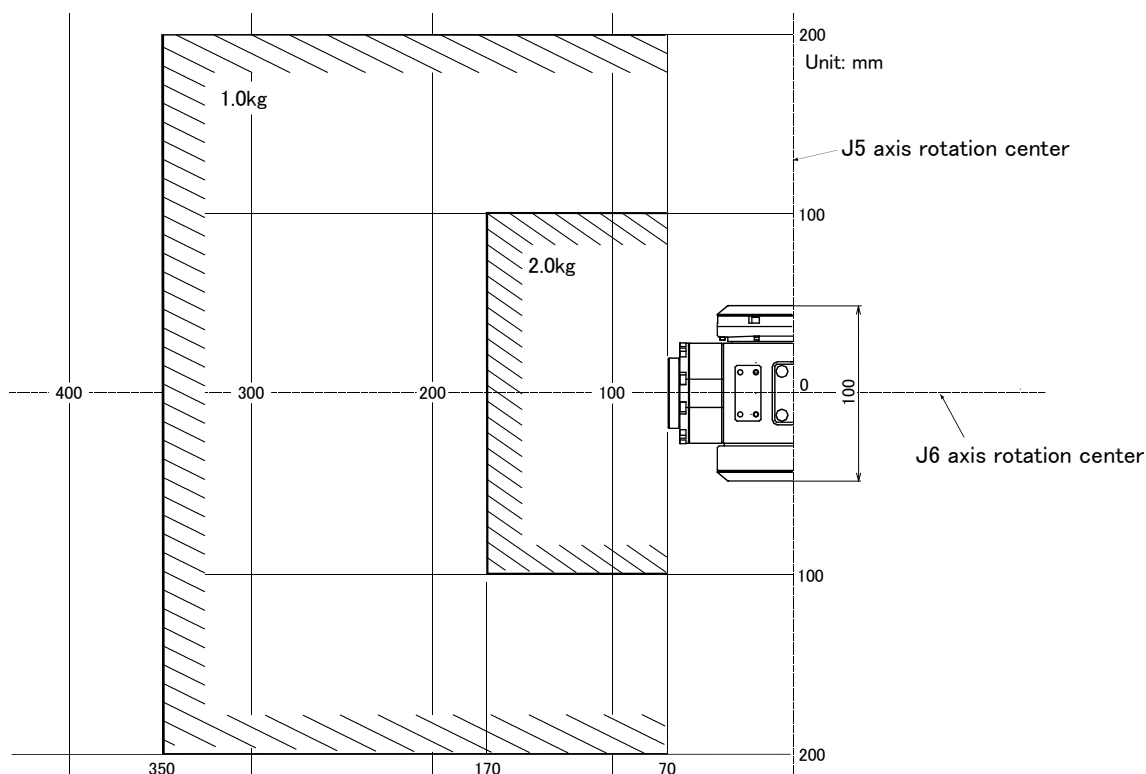
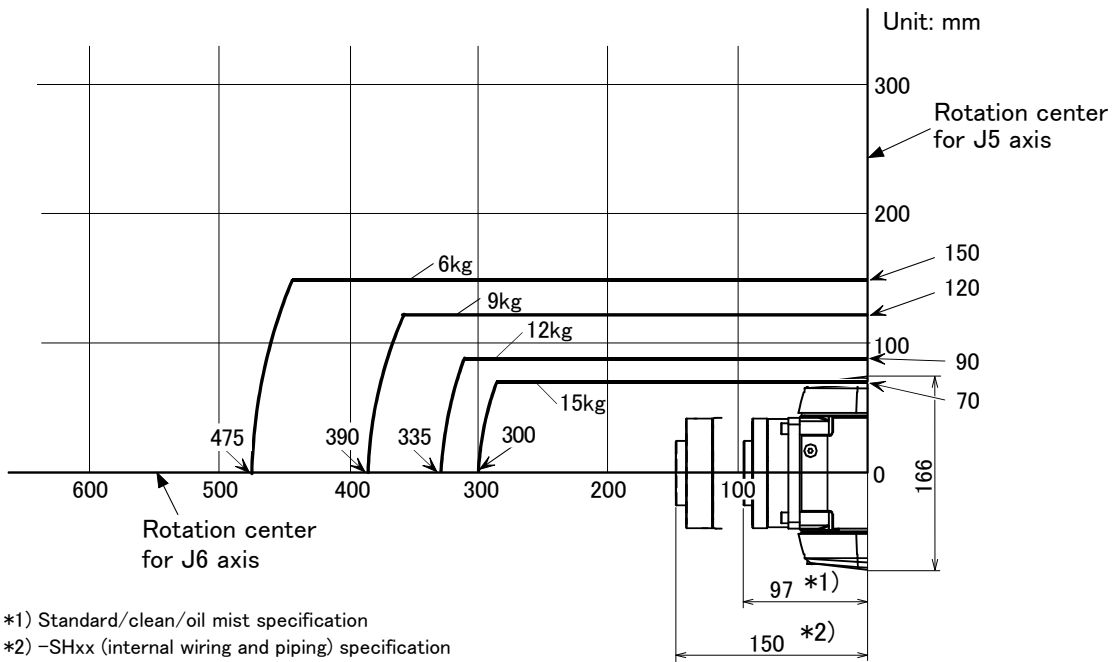

Fig.2-1 : Position of center of gravity for loads (for loads with comparatively small volume): RV-2FR(B)/2FRL(B)
Fig.2-5 : Position of center of gravity for loads (for loads with comparatively small volume): RV-20FR
- (2) Fig. 2-1 to Fig. 2-5 shows the distribution dimensions for the center of gravity in the case where the volume of the load is relatively small. Use this figure as a reference when designing the tooling.
- (3) Even if the load is force, not the mass, design the tooling so that moment does not exceed the allowable moment. Refer to Page 21, "2.1 Standard specifications" for details of allowable moment value.